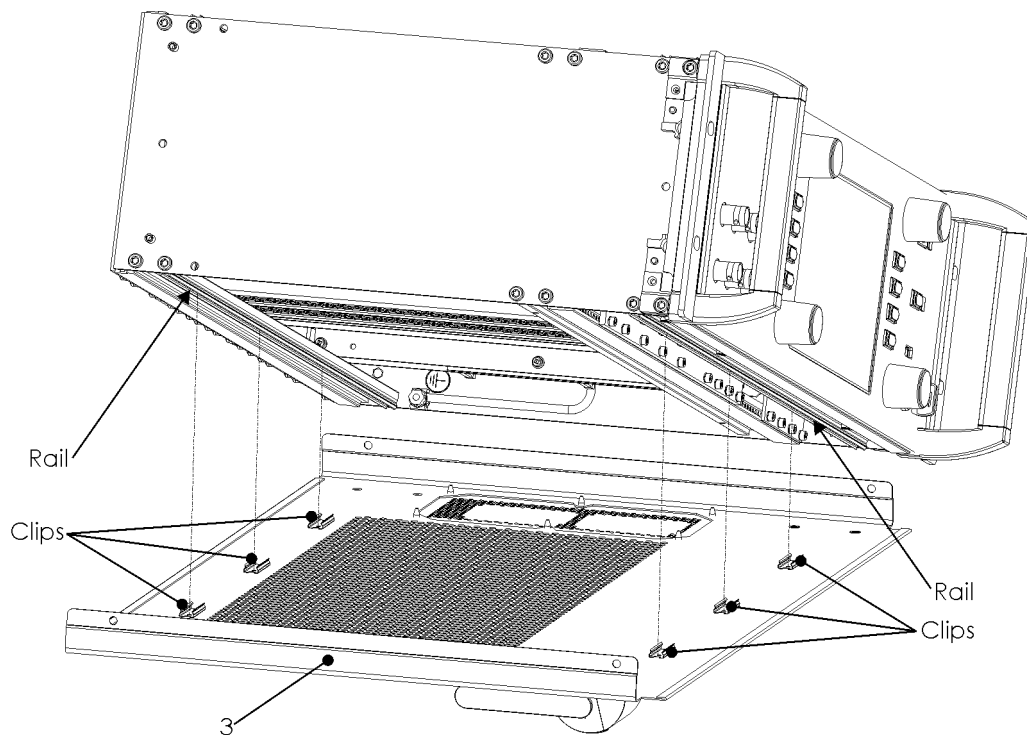

Figure 167 Placing the DLC pro on the base plate
4. Place the DLC pro in correct orientation (see Figure 167) on the base plate (3) so that the six clips of the base plate (3) are aligned with the rails of the DLC pro (see Figure 167). Carefully press together DLC pro and base plate (3). A clicking indicates that a clip is properly engaged.
5. Place the top cover (2) on the DLC pro so that the six clips of the top cover (2) are aligned with the rails of the DLC pro (The clips and rails are similar to the ones of the base plate illustrated in Figure 167). Carefully press together top cover (2) and DLC pro. A clicking indicates that a clip is properly engaged.